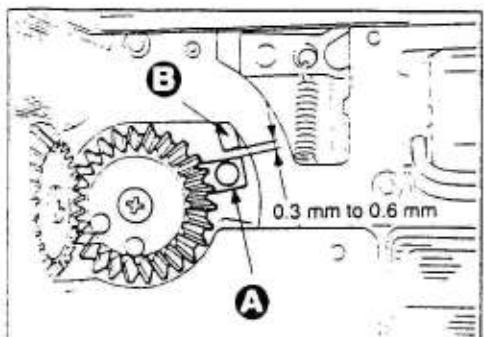

Fig.1
- Wind up the wind-up crank until the space between the second curtain charge gear (A) and the hook (B) of the second curtain becomes 0.3 to 0.6 mm, at this time, the clutch (C) of the wind-up substrate must get out of the gear. Loosen the screw (D) and adjust the position of the stopper (E) so that the clutch works at the timing as described above. (See Fig. 1.)